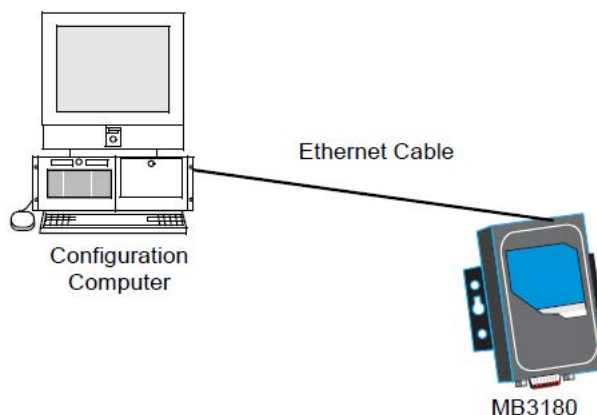

Figure 7.7: Connect a Configuration Computer
1. Connect the MB3180 to a configuration computer through an Ethernet cable as shown in Figure 7.7.